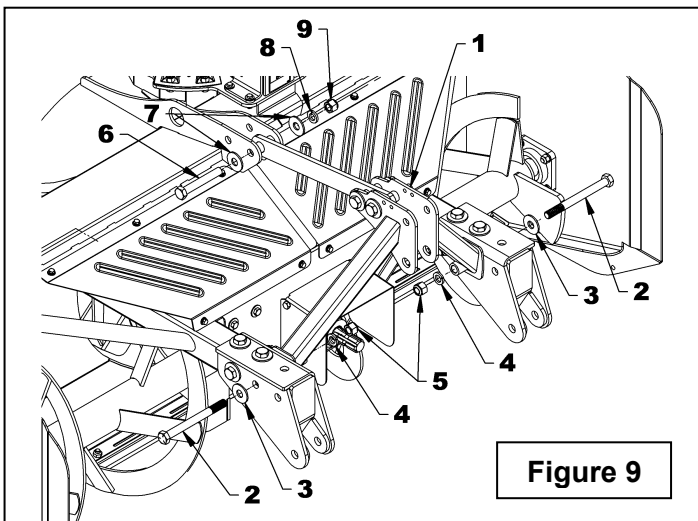

Figure 9
- Figure 9:** Install the upper assembly of the 3 pt hitch (item 1) by installing the 3/4"NC x 8" hex bolts (item 2) in the middle hole, the 3/4" flat washers (item 3), the 3/4" lockwashers (item 4) and the 3/4" nylon insert locknuts (item 5). Secure the upper link by installing the 3/4"NC x 5" hex bolts (item 6) in the front hole, the 3/4" flat washers (item 7), the 3/4" lockwashers (item 8) and the 3/4" nylon insert locknuts (item 9).